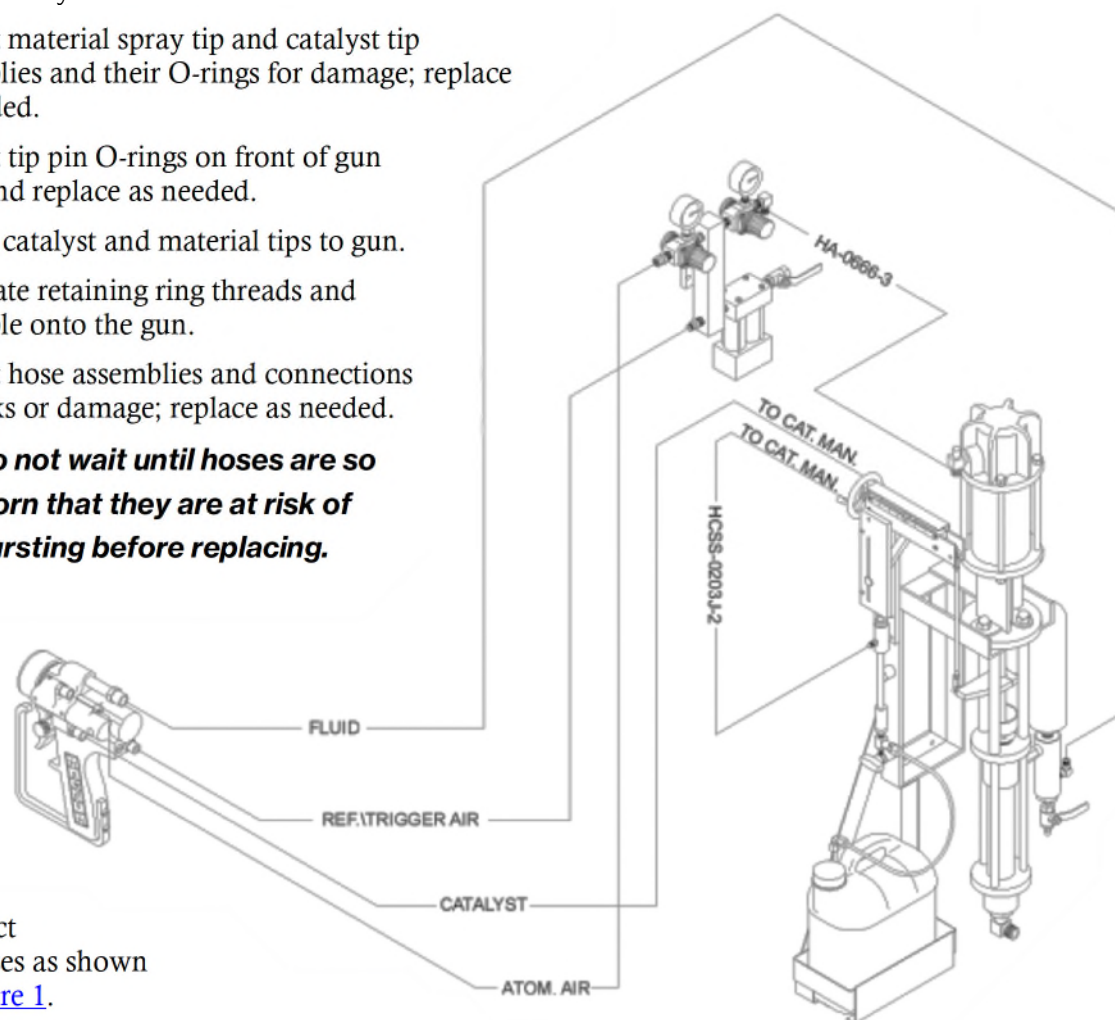

Figure 1. Hose Connections
- Connect the hoses as shown in Figure 1.